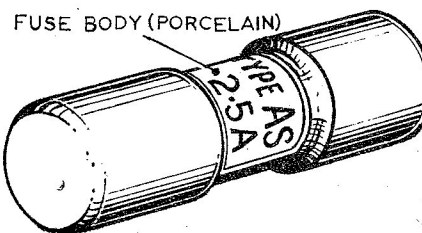
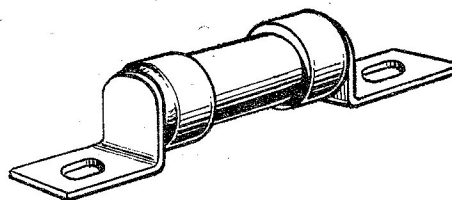

Fig. 1. Ferrule-contact fuse-link
Fig. 2. Tag-contact fuse-link
7. Cartridge fuse-links can be divided into two groups according to the type of contact the link makes with the fuse-unit or carrier. These are the ferrule-contact type (*fig. 1*) and the tag-contact type (*fig. 2*). Fuse-links used in service are listed in Appendices to this chapter.